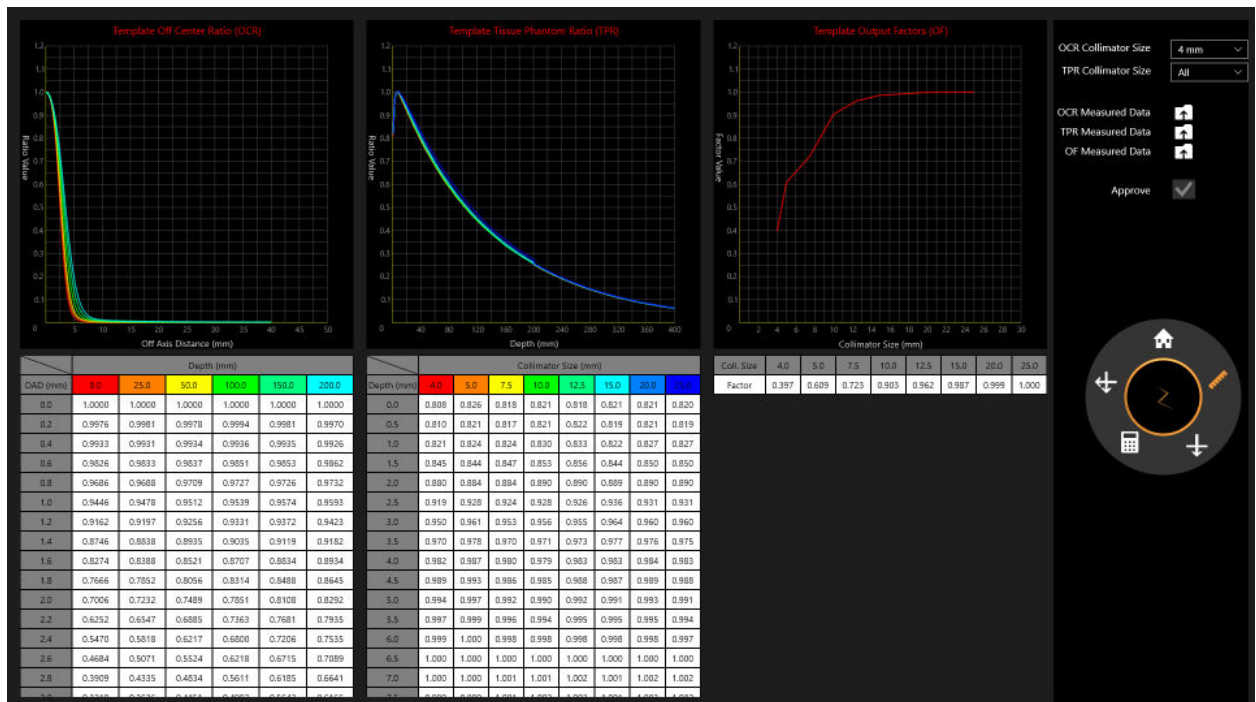

Figure 10.6: Review of Measured Beam Data
4. Review all collimators and the corresponding data (see Figure 10.6).